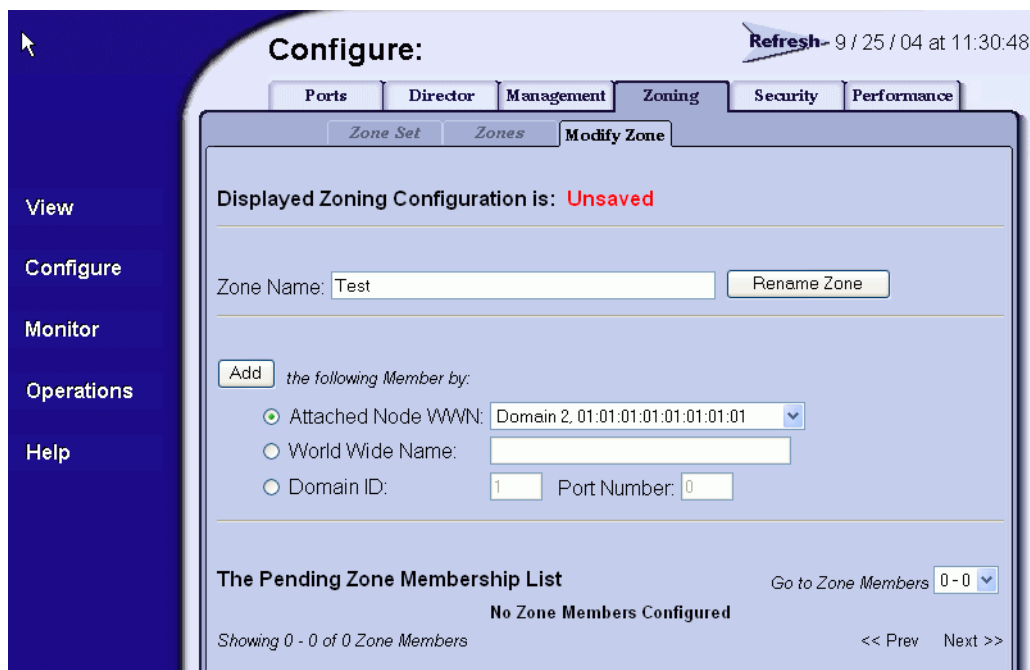

Figure 2-29 Configure Panel (Zoning Page with Modify Zone Tab)
4. To add devices (members) to the zone, click the zone name (**Zone-1**). The *Zoning* page displays with the *Modify Zone* tab selected (Figure 2-29 on page 2-48).